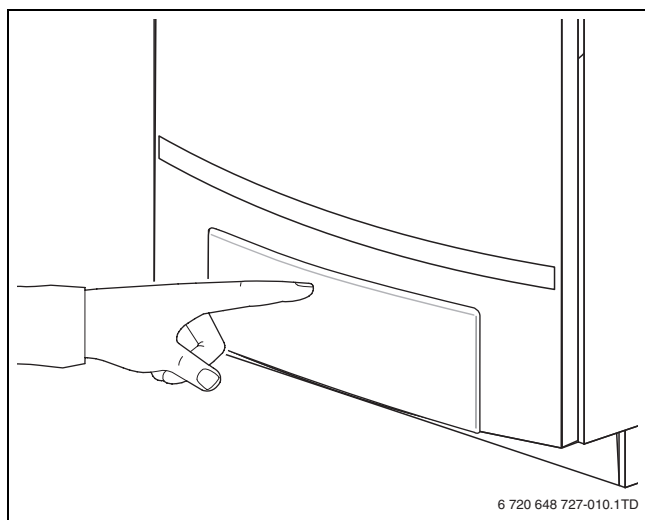

Fig. 3 Opening the control panel
► Push on the control panel to open it (→ fig. 3).